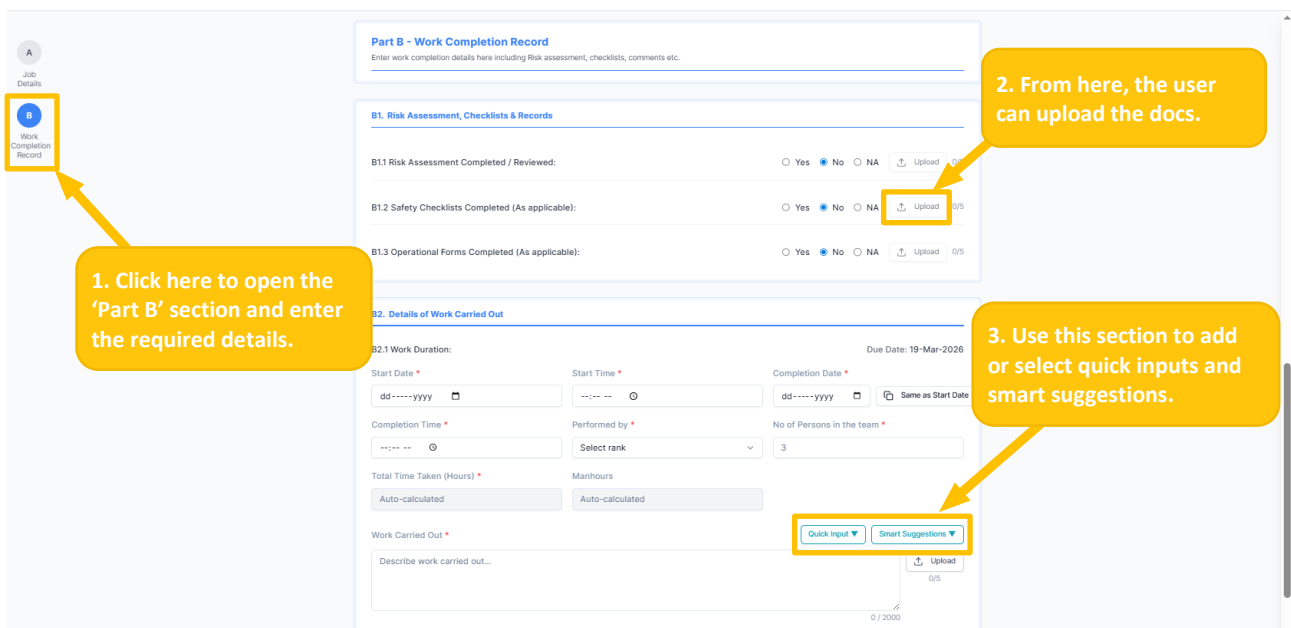

Figure 38
- The 'Work Order Form' appears after clicking the 'Edit' icon. (Ref Figure 38)
- Navigate to 'Part B – Work Completion Record', enter the required information. (Ref Figure 38)